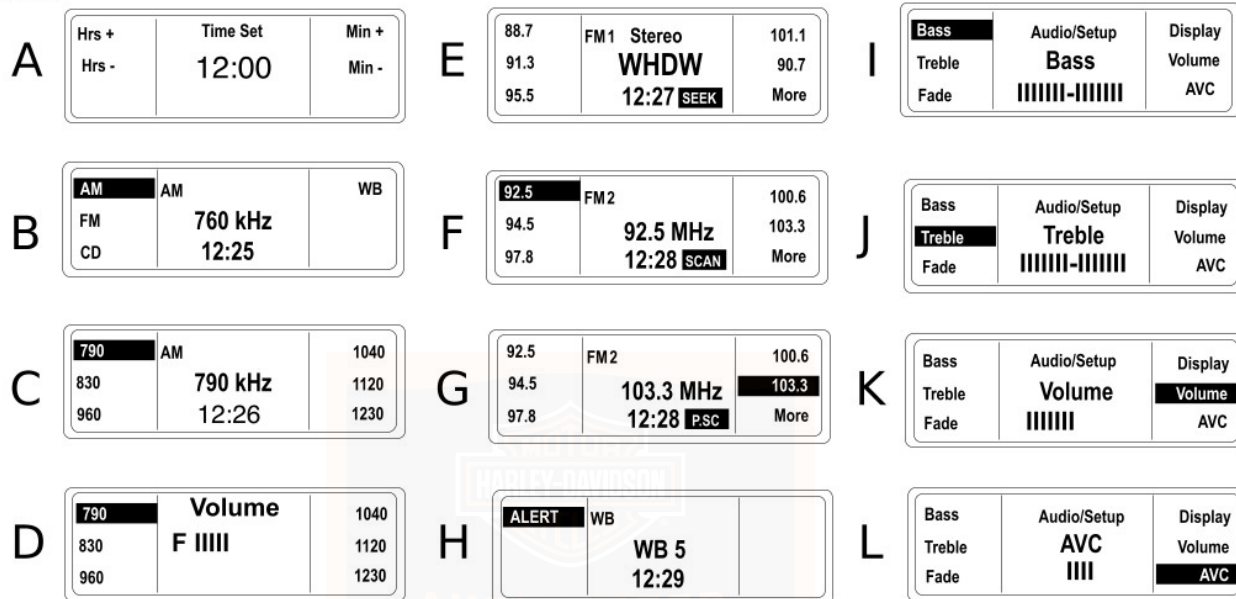

Figure 27. FLHX, FLHTC and FLTR LCD Display Examples
See A in Figure 27. To increase the hours in the display press the Hrs+ soft key. To decrease hours press the Hrs- soft key. When the hour is correct, release the soft key.
See B in Figure 27. The LCD highlights the selected band.
See D in Figure 27. At any time the receiver is playing, the volume can be adjusted by pressing the **AUDIO** switch up (+) to increase volume or down (-) to decrease volume.
See E in Figure 27. Normally, the Advanced Audio System plays FM signals in stereo. The LCD will indicate **STEREO**.
See H in Figure 27. Broadcast by the National Oceanic and Atmospheric Administration (NOAA) National Weather Band (WB) frequencies are available in North America only.
See E in Figure 27. In SEEK, the radio tunes in to the next strong station.
See F in Figure 27. Press and hold the **MODE SEL** switch **UP** or **DN** approximately 5 seconds to scan the band for strong station signals. Each strong station remains tuned in for 8
See C in Figure 27. AM can store 6 preset frequencies.
*See E and F in Figure 27. Separate FM1 and FM2 bands allow the rider to store 2 sets of 5 preset FM frequencies (10 total). Use the **More** soft key to toggle between FM1 and FM2. The full range of FM frequencies can be selected in either FM1 or FM2.*
See G in Figure 27. In preset SCAN, the radio continuously tunes from one preset station to the next until the preset SCAN is cancelled. A P.SC icon will display while preset SCAN is active.
See D in Figure 27. Volume is adjusted with the **AUDIO** switch on the left hand grip. Using left thumb, press the **AUDIO** switch up (+) to raise the volume or down (-) to lower the volume. The LCD displays the word Volume and a bar graph that changes length with the volume.
See K in Figure 27. Volume can also be adjusted in Audio/Setup.
BASS: See I in Figure 27. Press **AUDIO** to display Bass Audio/Setup. Using the left thumb, press the **AUDIO** switch up (+) to increase the bass range or down (-) to lower the bass range. The LCD displays the word Bass and a dashed line that changes length with the setting. The short center dash indicates a middle setting.
TREBLE: See J in Figure 27. From Bass Audio/Setup, press and release **AUDIO** to sequence to Treble. Using the left thumb, press the **AUDIO** switch up (+) to increase the treble range or down (-) to lower the treble range.
See J in Figure 27. The LCD displays the word Treble and a bar graph that changes length with the setting. The short center dash indicates a middle setting.
See L in Figure 27. Automatic Volume Control (AVC) automatically adjusts volume level to compensate for ambient noise associated with motorcycle speed.